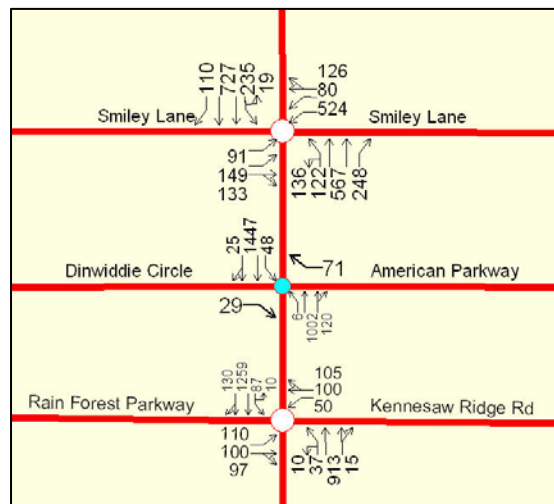

Figure 15 – Operational Analysis
- Traffic movements included in operational analysis (See Figure 15)